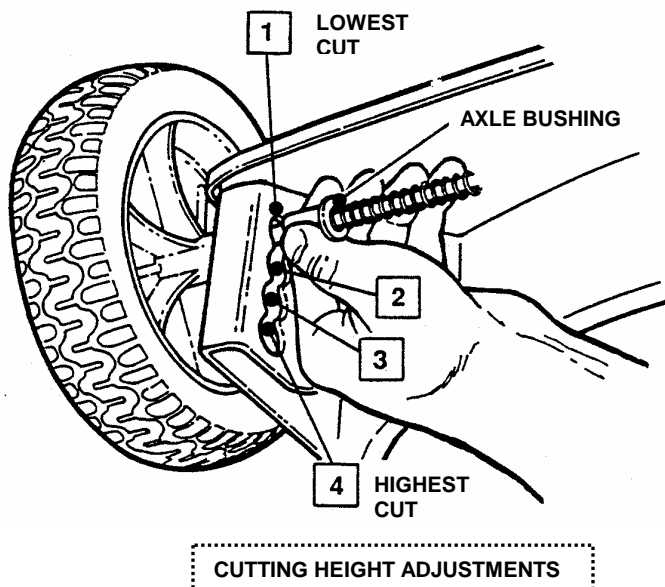

FIGURE 2.4
Positioning the axles in the lowest of the four adjustment positions in the wheel brackets raises the cutting deck to the highest cutting height which is 2-1/2 inches. The top position provides the lowest cut of 1/2 inch. See Figure 2.4.
1. Reposition the front axle by raising the front wheels off the ground, then pull in on one of the spring loaded bushings until it clears the bracket. Move to the desired height of cut position (four positions are provided) and release the bushing. Repeat the same procedure on opposite end of axle. See Figure 2.4.
**NOTE:** Position rear axle bushings in the same corresponding position as the front axle to keep deck level. Refer to Figure 2.4.